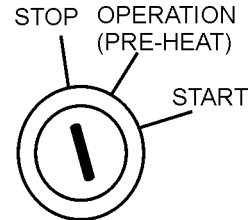

**Figure 51. Ignition (Switch Normal)**
3. Place the ignition switch (Figure 51) in the “**STOP**” position, remove the key and store in a safe place.